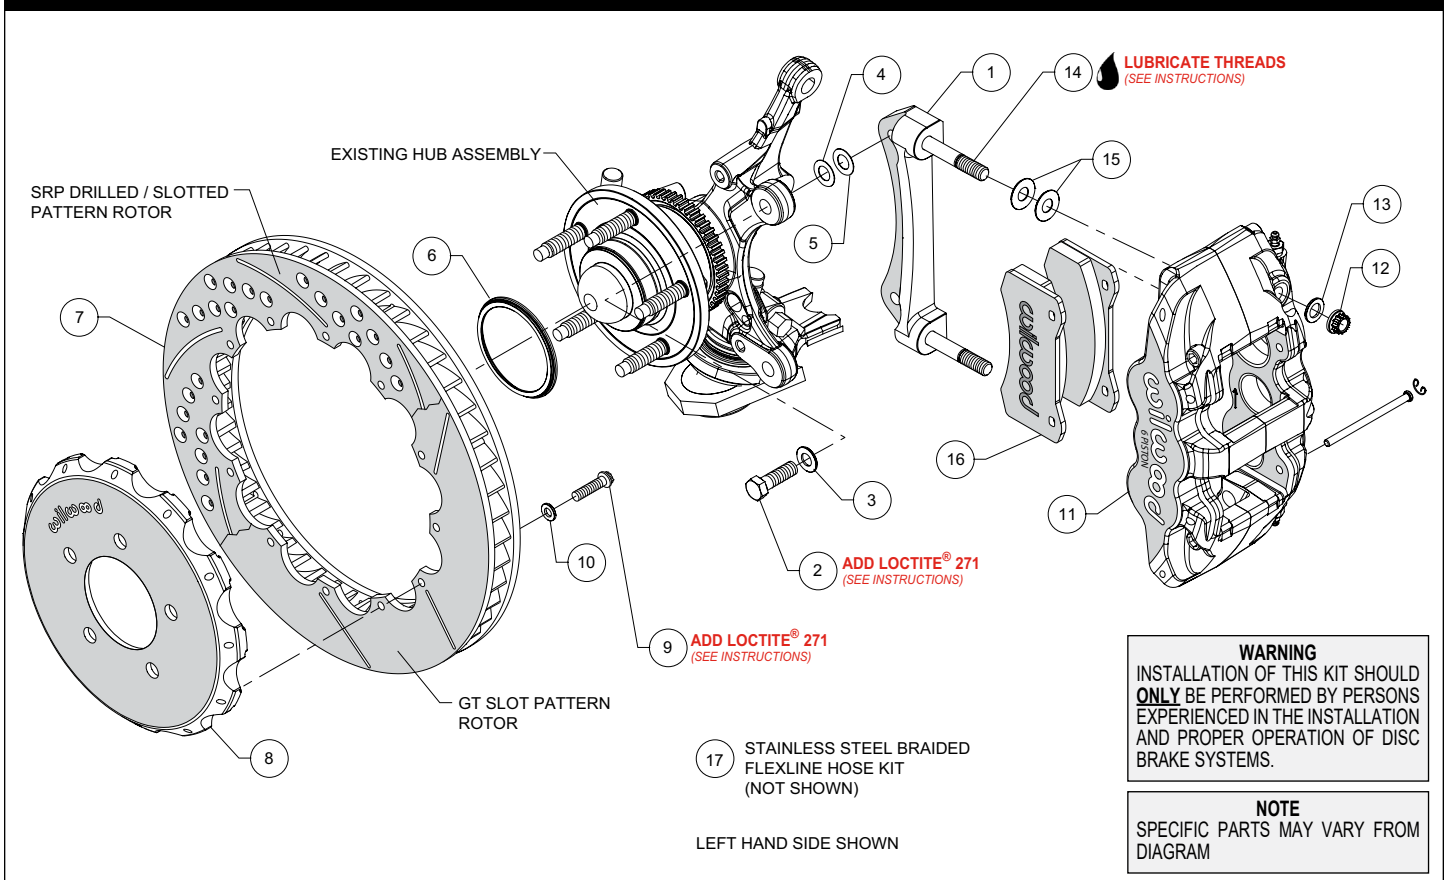
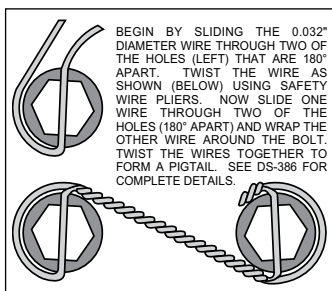

Figure 1. Typical Installation Configuration
Figure 4. Safety Wire Diagram
Assembly Instructions (numbers in parenthesis refer to the parts list and Figure 1 on the preceding pages):
- The caliper mount bracket (1) should initially be installed with clean, dry threads on the mounting bolts. Orient the bracket, as shown in Figure 1 and Photo 1, and install using bolts (2) and washers (3). Initially place one .033" thick shim (4) on each bolt between the bracket and upright, Figure 1. Temporarily tighten the mounting bolts. **NOTE: The bracket must fit squarely against the mount bosses on the upright.** Inspect for interference from casting irregularities, machining ridges, burrs, etc. Later, after the caliper alignment has been checked, the mount bolts will be secured using red *Loctite*® 271.
- Orient the rotor (7) and the hat (8) as shown in Figure 1 and Photo 2. Attach rotor to hat using bolts (9) and washers (10). Apply red *Loctite*® 271 to the bolt threads and torque to 155 in-lb using a criss-cross pattern. For an added measure of security, the bolts may be safety wired using standard 0.032 inch diameter stainless steel safety wire as shown in Figure 4. Refer to Wilwood's data sheet DS-386 (available at www.wilwood.com/Pdf/DataSheets/ds386.pdf) for complete safety wire installation instructions.
- Slide the rotor registration adapter (6) onto the axle hub with the smaller O.D. facing toward the rotor/hat, Figure 1 and Photo 3.
- NOTE: This kit contains distinct right and left hand calipers that must be mounted in a specific direction, as described below.** Lubricate the caliper mounting studs (14) with lightweight oil. Initially place two .030" thick shims (15) on each stud between the caliper and the bracket, as shown in Figure 1 and Photo 4. Mount the caliper (11) onto the bracket (1) using lock nuts (12) and washers (13), Figure 1. Temporarily tighten the lock nuts. Ensure that the caliper is mounted so the largest pistons are at
- Remove the two pad retaining pins from the caliper (11) by carefully popping out the pin retaining clips and sliding out the pins. Insert the brake pads (16) into the caliper from the bottom, Figure 1 and Photo 6. With the friction material facing the rotor, secure the brake pads in place with the pad retaining pins and clips, Photo 7. Reinstall the caliper onto the caliper mounting bracket and temporarily tighten the lock nuts. Check that the top of the brake pad is flush with the outside diameter of the rotor, Photo 8. If not, adjust by adding or subtracting shims (15) between the caliper and the bracket. After the caliper pad height is set, torque the caliper lock nuts (12) to 47 ft-lb.
- NOTE:** OEM rubber brake hoses generally cannot be adapted to Wilwood calipers. The caliper inlet fitting is a 1/8-27 NPT (use PTFE tape on pipe threads of adapter fitting for proper sealing to caliper). Install Wilwood's stainless steel braided flexline hose kit (17), P/N 220-9111 included with this kit. **Carefully route hoses to prevent contact with moving suspension, brake or wheel components.** **NOTE:** Wilwood hose kits are designed for use in many different vehicle applications and it is the installer's responsibility to properly route and ensure adequate clearance and retention for brake hose components.